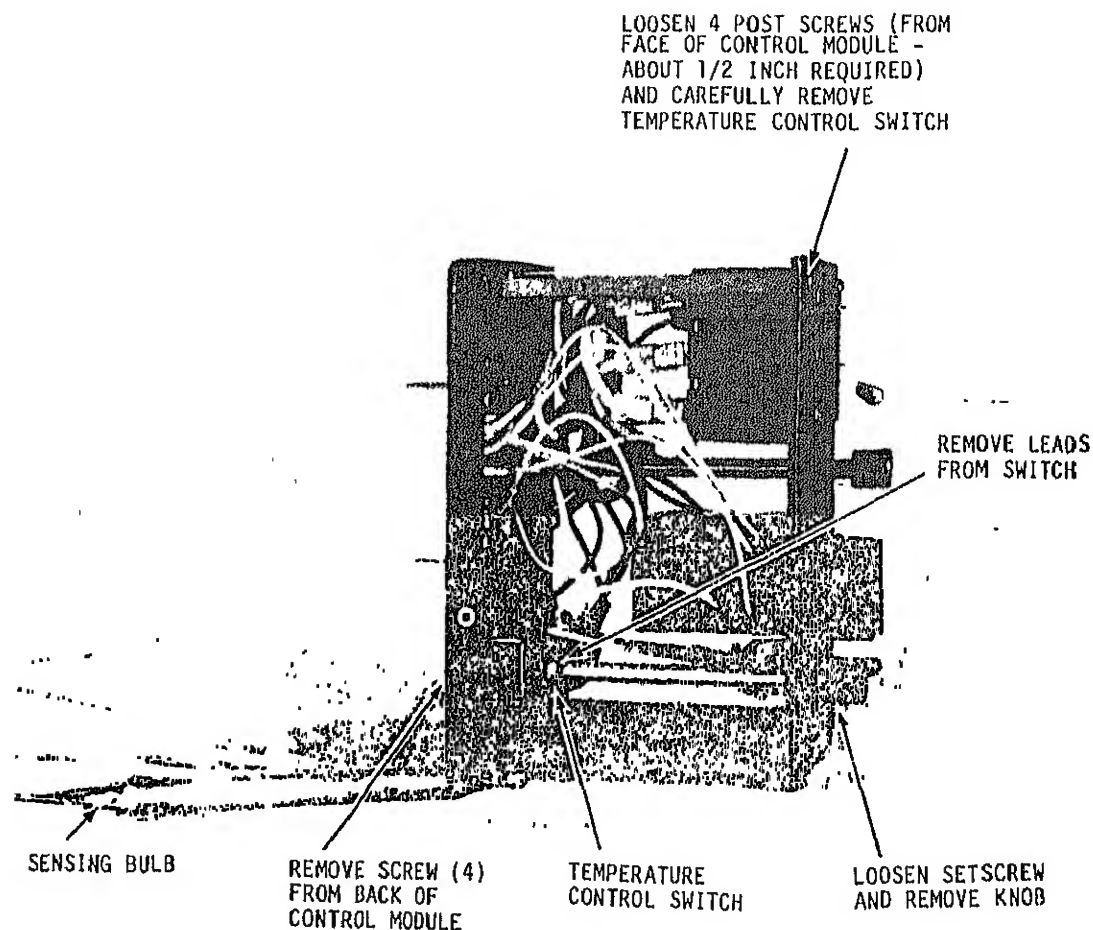

Figure 4-13. Temperature control switch, removal and installation
(11) Refer to figure 4-13 and remove the temperature control switch.
(1) Refer to figure 4-13 and install the temperature control switch.